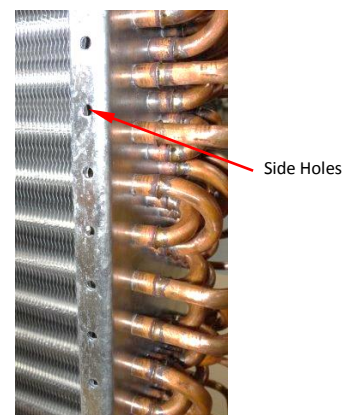

Fig.4
- The ducting must be fitted to the coil, drilling and screwing through the coil casing using the side holes (Fig. 4). Care should be taken to protect the Headers and Return bends by using a piece of wood or metal sheet behind the casing being drilled so that the tips of the screws do not touch the tubes. A suitable sealant must be used to seal joints.